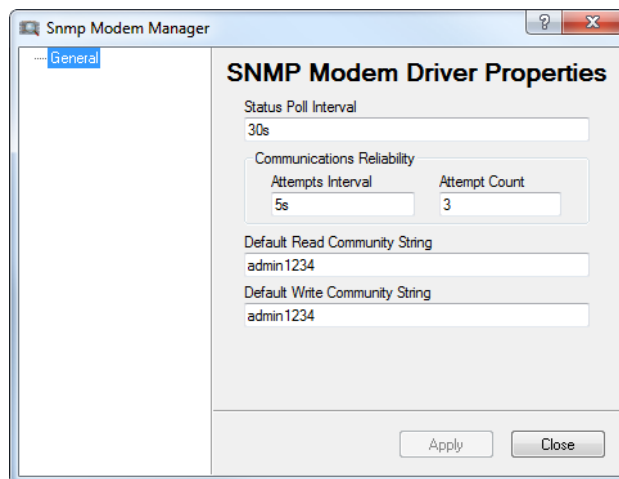

Figure 7-2 SNMP Modem Manager Properties
2. Select the **Properties** command to open the Properties page, shown below in figure 7-2.